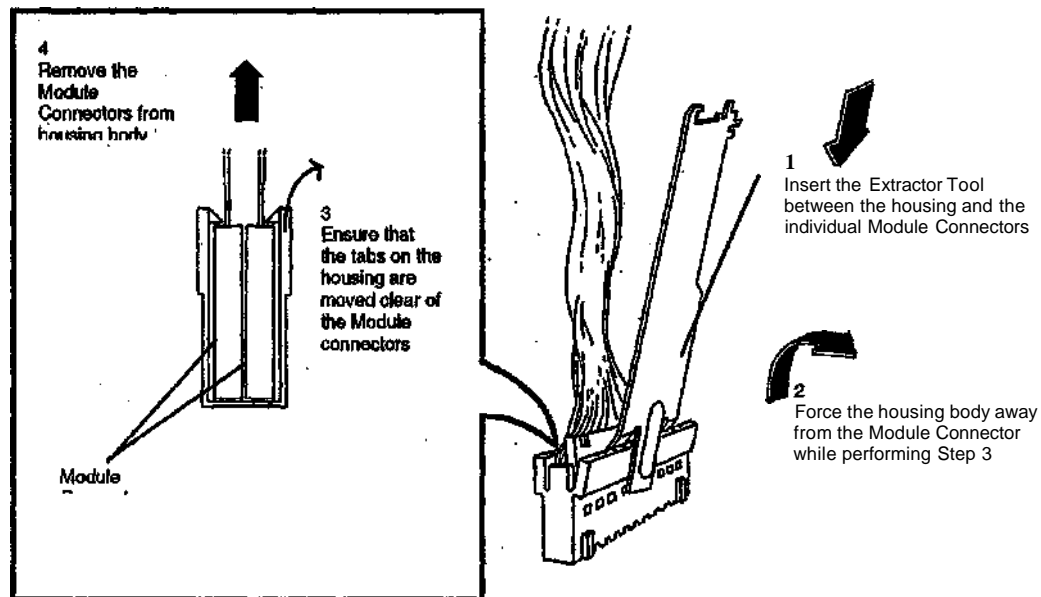

Figure 2. Removing the Module Connectors
2. (Figure 2): Remove the individual module connectors from the housing.